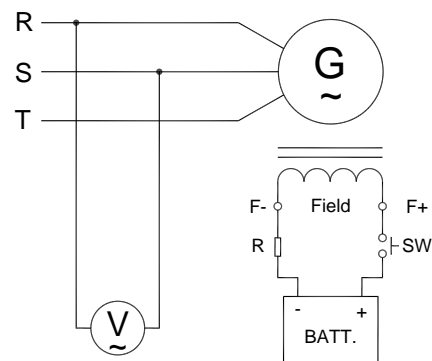

Figure 2 Manual Field Flash
- 3.2.1 Total of 3 sets of independent sensing inputs, each input voltage equals to 220V (Center), can be series into Y or Δ to connect to the generator output (3 Phases) for example R-T, T-S, S-R, or joint connected into a single phase sensing (See Figure 2 to 13).
- 5.2.1 Shut down generator, disconnect the wiring between AVR and generator then flash the field. Flashing duration = 3 seconds. (See wiring in Figure 2)
- 5.2.2 Restart generator and measure the residual voltage by AC Voltmeter, if it is still less than 5 Vac, repeat the previous process, after several times, the residual voltage still cannot be built, Kutai EB500 is strongly recommended, see Figure 2.